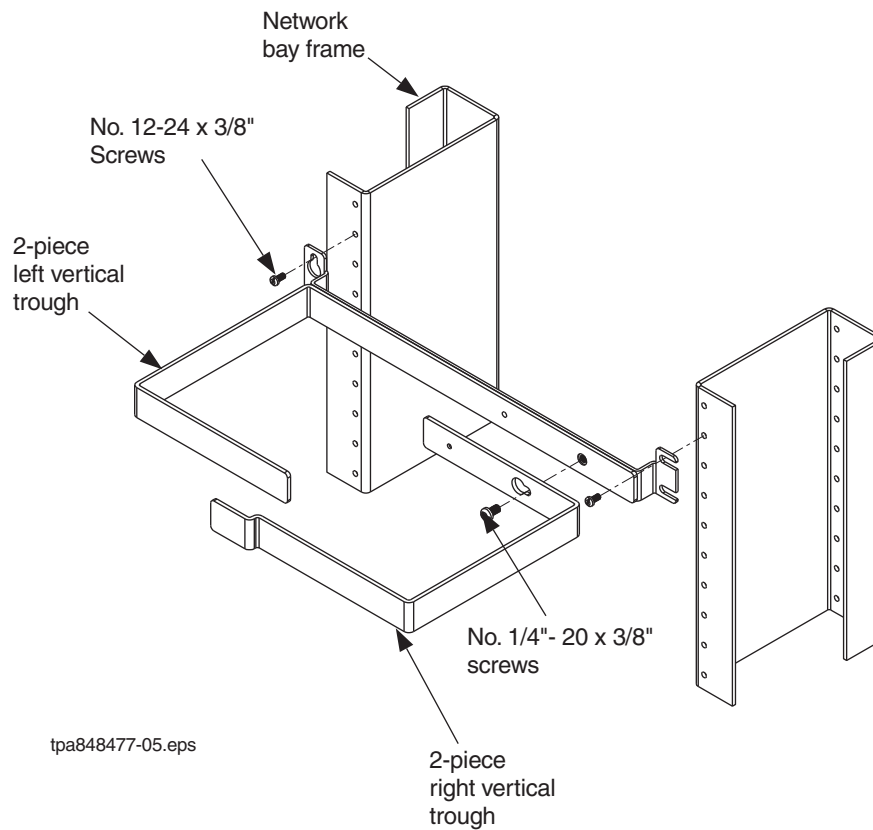

Figure 6. Installing Two-Piece Vertical Trough
Refer to Figure 6.
1. Fasten Group 90 or 91 left side bracket weld assembly to bay frame with two No. 12-24 by 3/8-inch long screws, as shown in Figure 6.